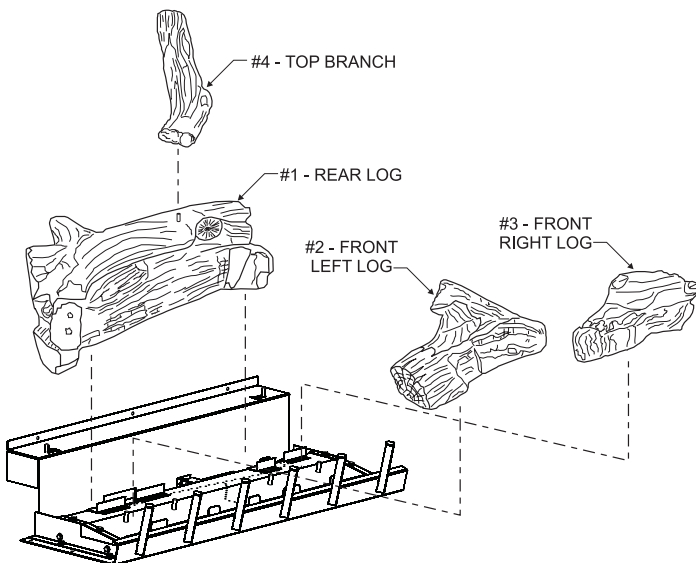
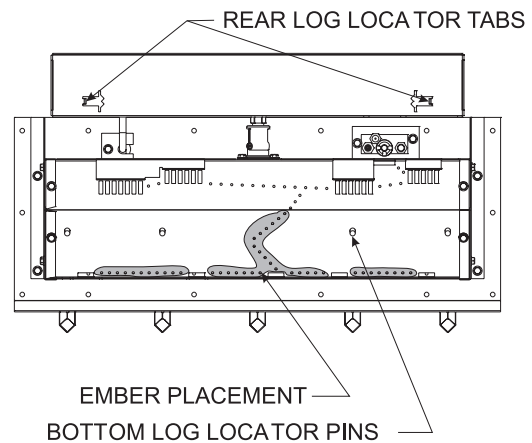

Figure 69
Figure 70
The positioning of logs is critical to safe and clean operation of this fireplace. Sooting and other problems may result if the logs are not properly and firmly positioned in the firebox. Please refer to **Figure 69**, **Figure 70**, and **Figure 71** and corresponding **WARNING**, when completing the following log placement steps.
2. After all logs are properly positioned, place small “dime” size pieces of Rockwool lightly across the front round “blueflame” ports. Place the ember material (Rockwool pieces) side by side. Do not stack more than one layer of embers across the burner ports. **See Figure 69.**